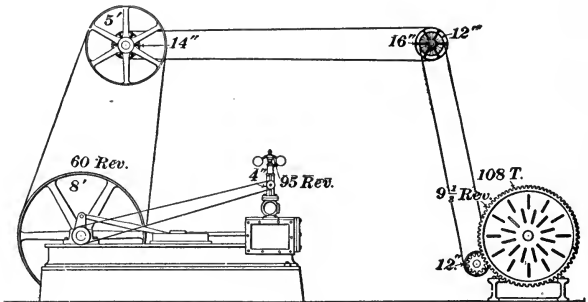

FIG. 27.
**EXAMPLE 2.**—In Fig. 27, the crank-shaft makes 60 revolutions per minute; the governor pulley is 4 inches in diameter; the bevel gear on the governor pulley shaft has 19 teeth; the bevel gear that meshes with it and drives the governor has 30 teeth. The governor is to make 95 revolutions per minute; what should be the size of the pulley on the crank-shaft?
EXAMPLE 3.—In Fig. 27, the flywheel is 8 feet in diameter and drives a 5-foot pulley on the main shaft. A 14-inch pulley on the main shaft drives a 16-inch pulley on the countershaft. A 12-inch pulley on the countershaft drives a 12-inch pulley on a shaft on which is a pinion that meshes into a large gear attached to the face plate of a large lathe, and which has 108 teeth. How many teeth must the pinion have in order that the face plate may make  $9\frac{1}{2}$  revolutions per minute?